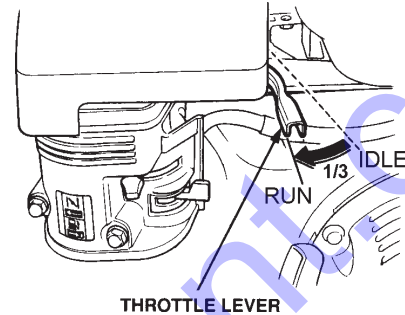

Figure 2. Throttle Lever (1/3 Start Position)
- Move the **throttle lever** (Figure 2) away from the slow position, about 1/3 of the way toward the fast position.